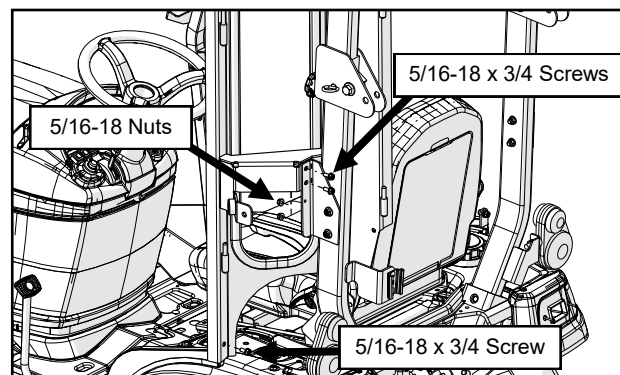

Fig. 6.1 (Install Rear Leg Assembly)
- 6.1 With assistance, hold the left rear leg assembly in place above the tractor's left rear fender and install a 5/16-18 x 3/4 bolt into the contour. The leg can then be secured to the ROPS bracket. Leave just loose enough for adjustment. See Fig. 6.1.